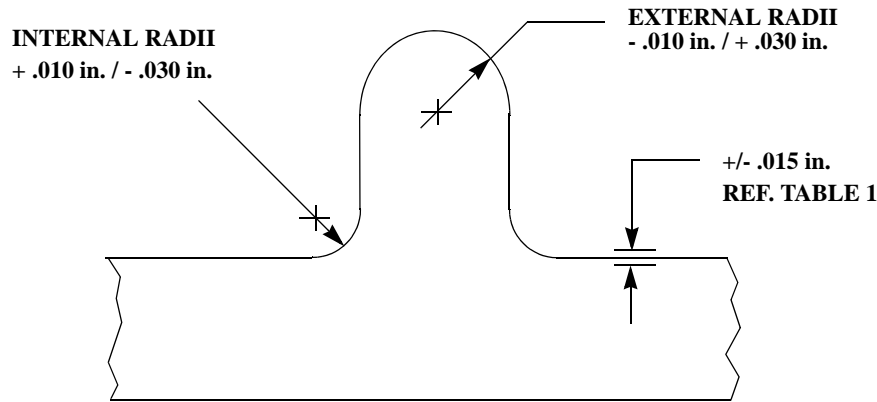

FIGURE 10: LUG RADII TOLERANCES (Lofted Machined Parts)
- 3.10.2. The tolerance limits on internal and external lug radii on lofted machined parts are shown in Figure 10